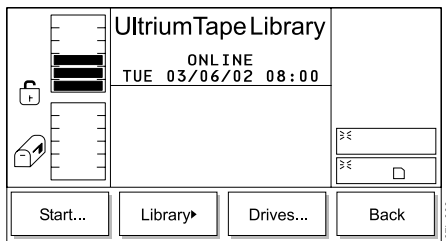

Figure 329. Service Menu
2. Press the button below the **Service** softkey. The Service Menu displays (see Figure 329).